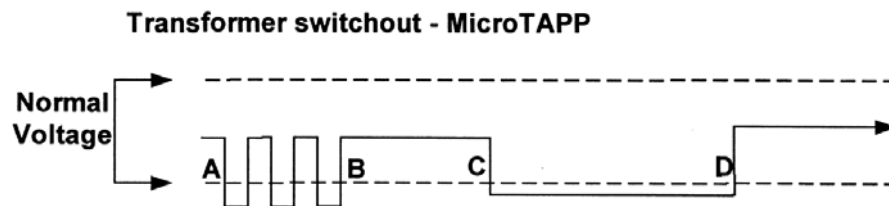

Figure 8
relay. The preparation sequence is shown in Figure 8. On receipt of a switch-out signal (A), the nominated MicroTAPP will immediately tap down until its measured power factor is unity and send a warning signal to other relays in the same group. The transformers that are to remain in service react to maintain the busbar voltage at the correct level as shown by the tap change operations A-B. On switch-out at C there may be relatively small resistive voltage drop that may or may not require a corrective tap-change (D).